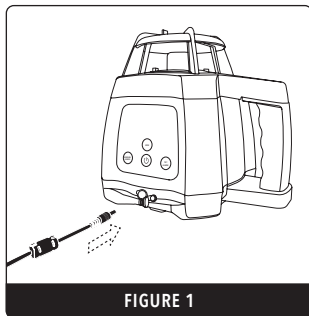

FIGURE 1
- Insert the charger into one of the two charging ports. The charging ports are located underneath the control panel (Fig.1) and on the battery pack. Progress will be shown by the power indicator display on the charger as following: